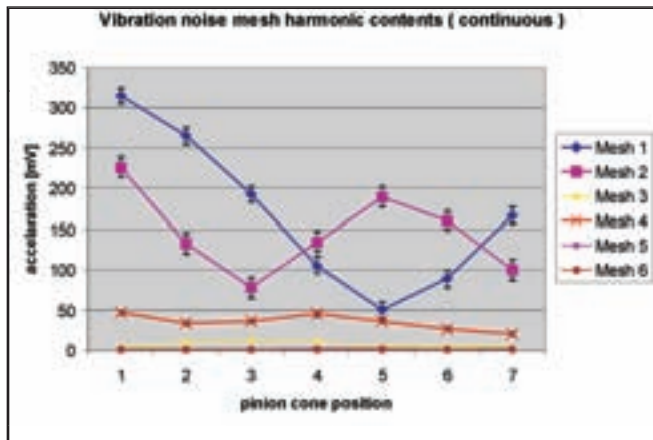

Figure 13—Mesh harmonic contents of vibration noise signal; checking method continuous.
**Vibration noise checking results, continuous.** The continuous vibration noise measurement (Fig. 13) shows almost identical results to